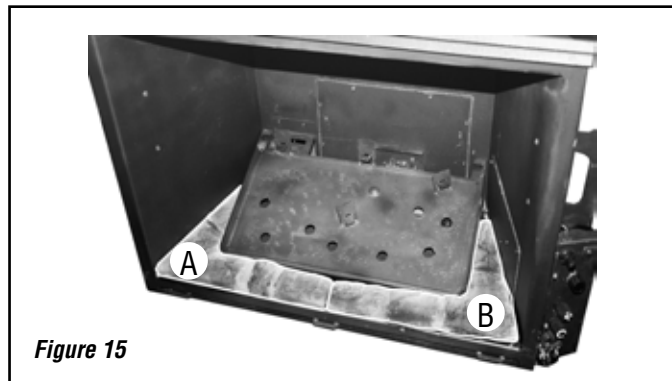

Figure 15
1. Start with the front bottom panels (A and B). Set them in place with detail side up as shown. See *Figure 15*.